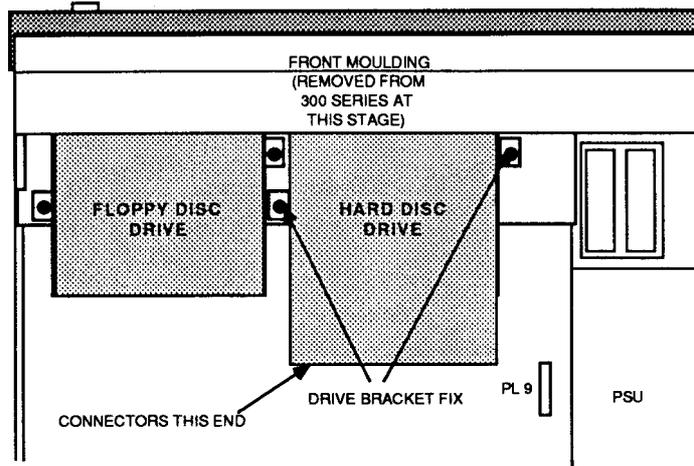

FIG. 4 HARD DISC DRIVE INSTALLATION
5. Stand the unit back on its feet and unplug the LED/speaker connector PL9 from the main board (see fig. 4). Grasp the front moulding assembly at each end and use a straight, steady pull to withdraw it from the front of the unit.
8. Assemble the hard disc drive to the drive bracket (if this is not already done) with 4 off 6-32 UNC x ¼" screws supplied. Ensure that the drive is orientated such that the PCB is at the bottom, with the connectors facing towards the rear of the main unit (see fig. 4).